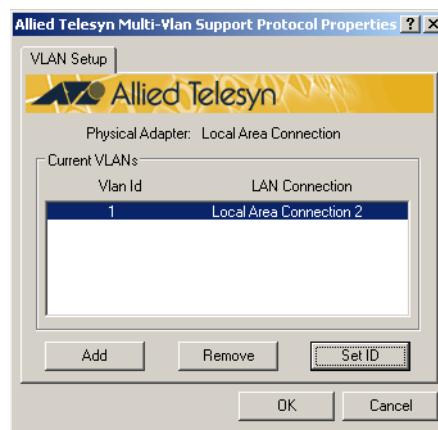

Figure 85 VLAN Setup Window
4. The window shown in Figure 85 is displayed.